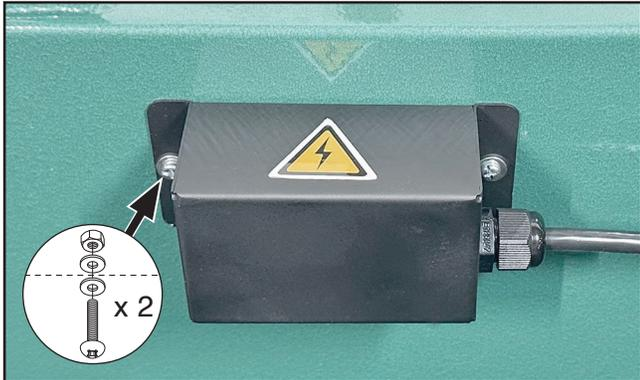

Figure 58. Photoelectric sensor junction box attached to machine body.
51. Secure photoelectric sensor junction box to machine body with (2) #10-24 x 1/2" Phillips head screws, (4) #10 flat washers, and (2) #10-24 hex nuts (see **Figure 58**).